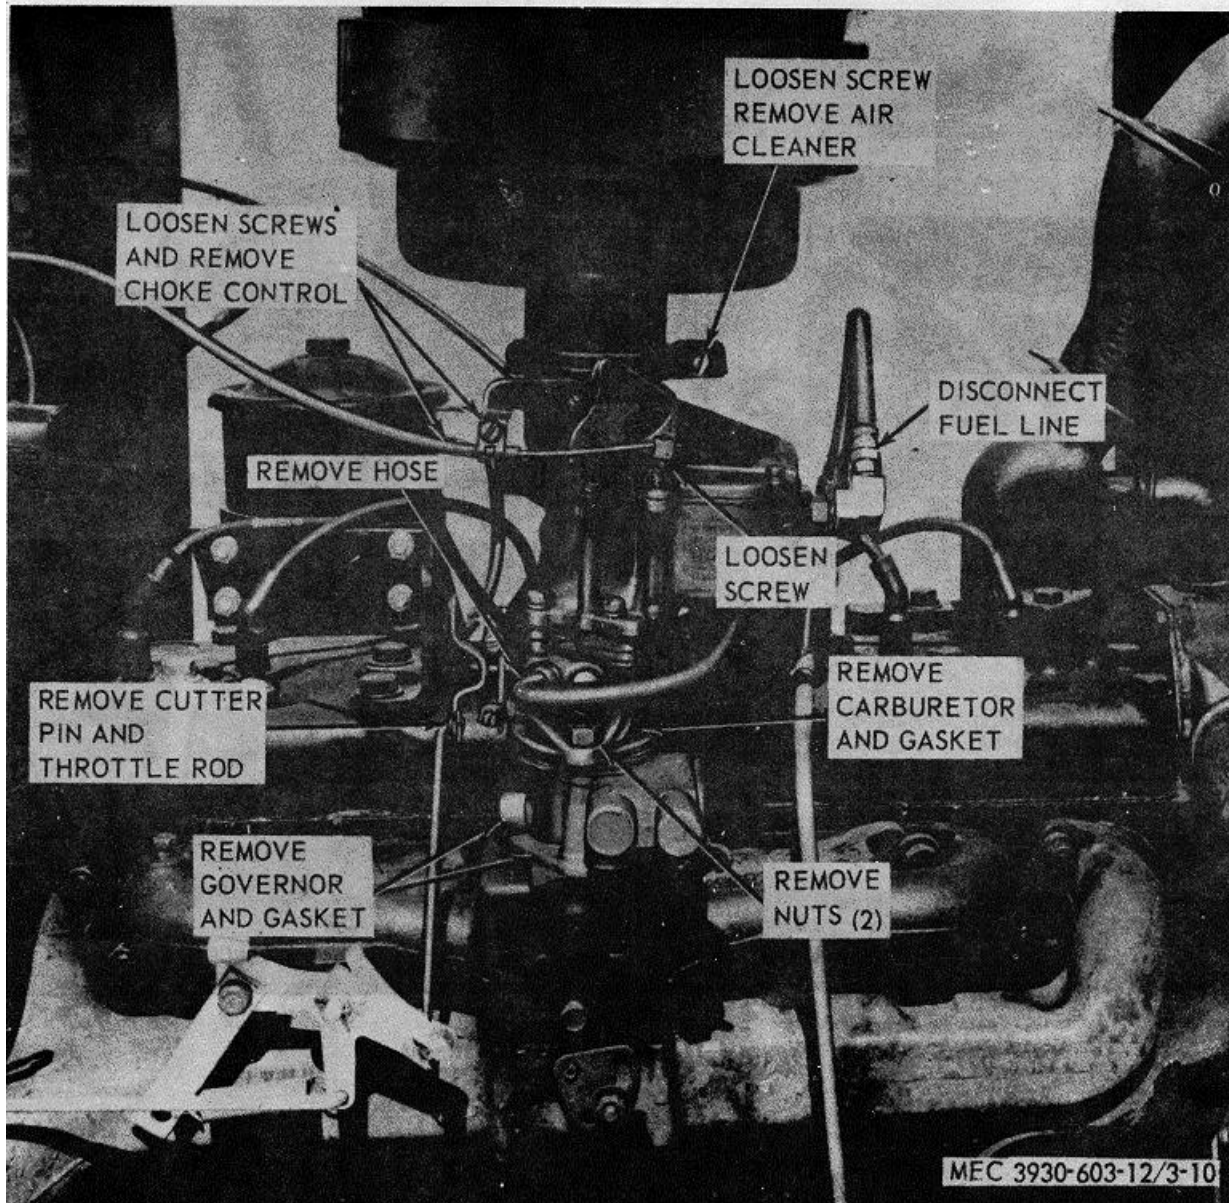
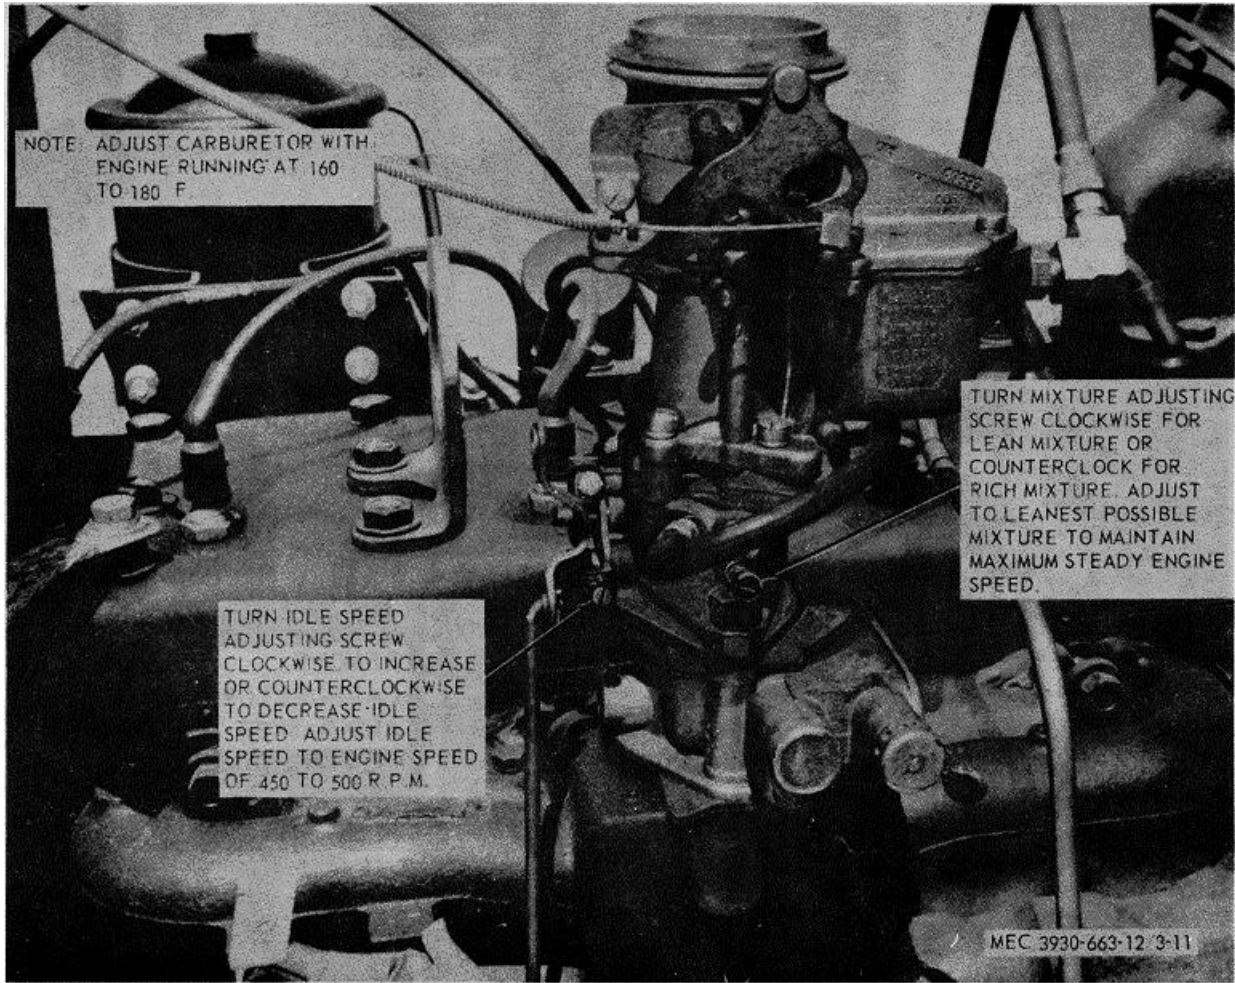

Figure 3-10 Carburetor and governor, removal and installation.
Figure 3-11. Carburetor adjustment.
*a. Removal.* Remove carburetor as illustrated in figure 3-10.
(1) Install carburetor as illustrated in figure 3-10.
(2) Adjust carburetor (*d* below).
*d. Carburetor Adjustment.* Adjust carburetor as illustrated in figure 3-11.
*a. Removal.* Remove carburetor and governor assemblies as illustrated in figure 3-10.
(1) Refer to figure 3-10 for installation of governor and carburetor assemblies.
(2) Adjust carburetor (para 3-25).